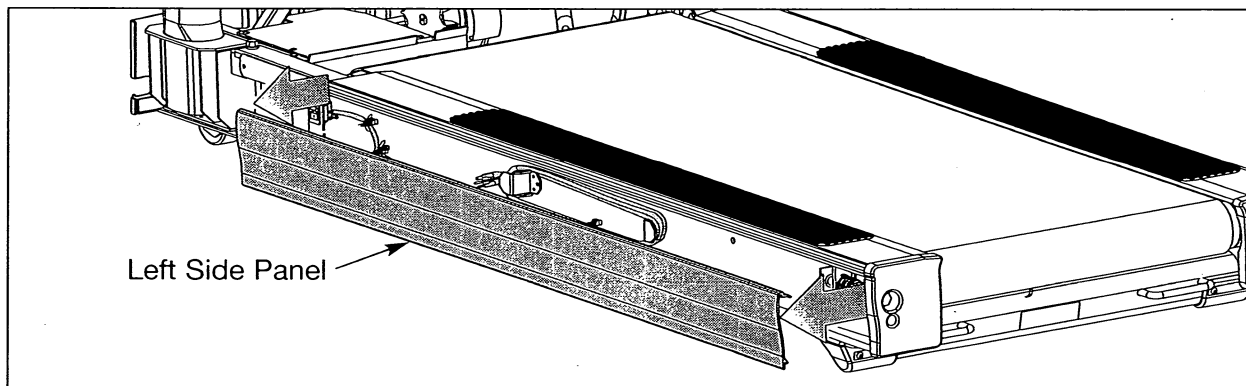

Figure 9
- A. Pull the left side panel away from the base. See Figure 9.